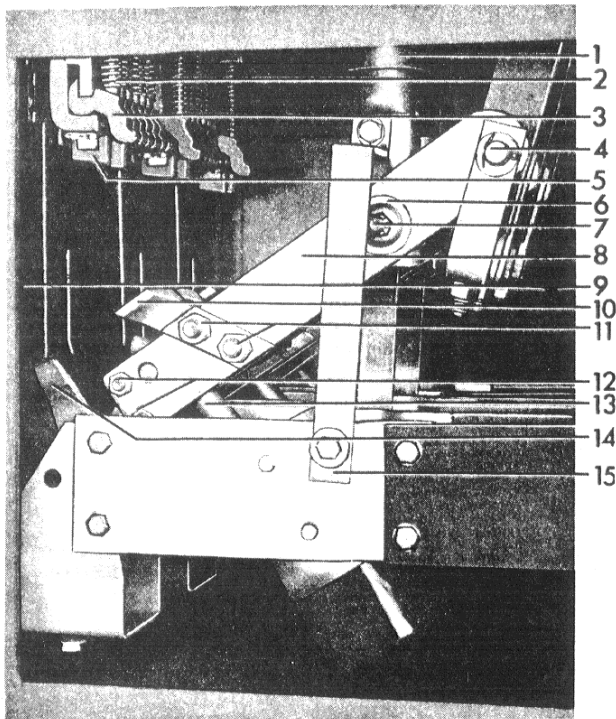

Figure 23. (8039588) Contact Assembly
7. The cup bearing and the contact ring at the hinge point of the contact blade should be disassembled, inspected, cleaned, and relubricated with G-E contact lubricant D50H47. The contact ring should be inspected for wear and replaced when reduced in thickness to less than 1/32". When reassembling the cup bearing, be sure the cotter pin is properly assembled in the castle nut on the hinge pin (7) Figure 23. This assures proper contact pressure at the hinge.
3. The stationary primary contact fingers (3) Figure 23, should be disassembled and the silver-plated pivot area of the contact and contact support cleaned and lubricated with G-E lubricant D50H47.
1. Disconnect the contact braids (7) from the contact fingers by removing two bolts and locking plates (8).
3. To disassemble braids from stud plate remove one bolt (5).
4. To disassemble stud plate from contact support, remove two bolts (6).
5. Reassemble in the reverse order, make sure locking plates are properly re-assembled with bolts (8).
B. Movable Arcing Contact (14) Figure 23.
1. Remove the assembly bolts (12) making note of quantity and location of shims and spacers used between contacts and contact arms.
3. Close the breaker slowly to check that the movable arcing contact is approximately centered on the stationary arcing contact and that it does not rub on either side of the throat barrier (9).
D. Movable Primary Contacts (10) Figure 23.
E. Contact Arm Assembly (8, 10, 12, 14, Figure 23).
1. Remove connection bar (15).
2. Disassemble hinge pin (7), cup bearing (6), and operating rod pin (4) noting quantity and location of any washers and spacers used in assemblies.
3. The contact arm assembly including the piston assembly (13) can now be removed.
4. When reassembling, first insert piston tube assembly (13) into the booster cylinder and reassemble the cup bearing, making sure the silvered contact washers between the bushing and contact arms (both sides) are in place.
5. Reassemble operating rod pin (4) and connection bar (15).
3. Remove the connection bar (15) Figure 23, cup bearing (6) and hinge pin (7).
5. When reassembling, first mount the bushing and assemble the cup bearing (6), contact arm (8), and replace pin (7) being sure the silvered contact washers between the bushing and contact arms are in place. The contact surfaces at the hinge point of the contact blade and bushing should have a thin coating of D50H47 grease.